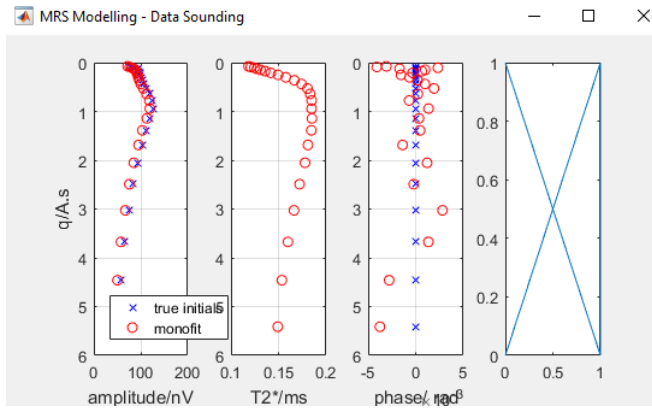

Figure 9: Real part (left) and Imaginary part (right) of the complex signals.
- The **Data Sounding** graph (Fig. 9) shows the simulated data under the form of sounding curves for each parameters: *initial amplitude (nV)*, *apparent relaxation time ($T2^*/ms$)*, and *phase (rad)*.